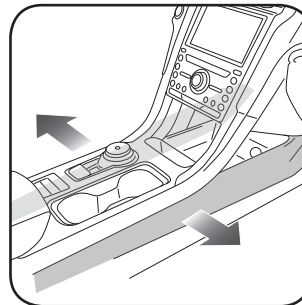

Fig. 1.3
3. (2017 and subsequent models ONLY): unclip and remove the side panels of the center console. Remove the screws exposed. (Fig. 1.3)